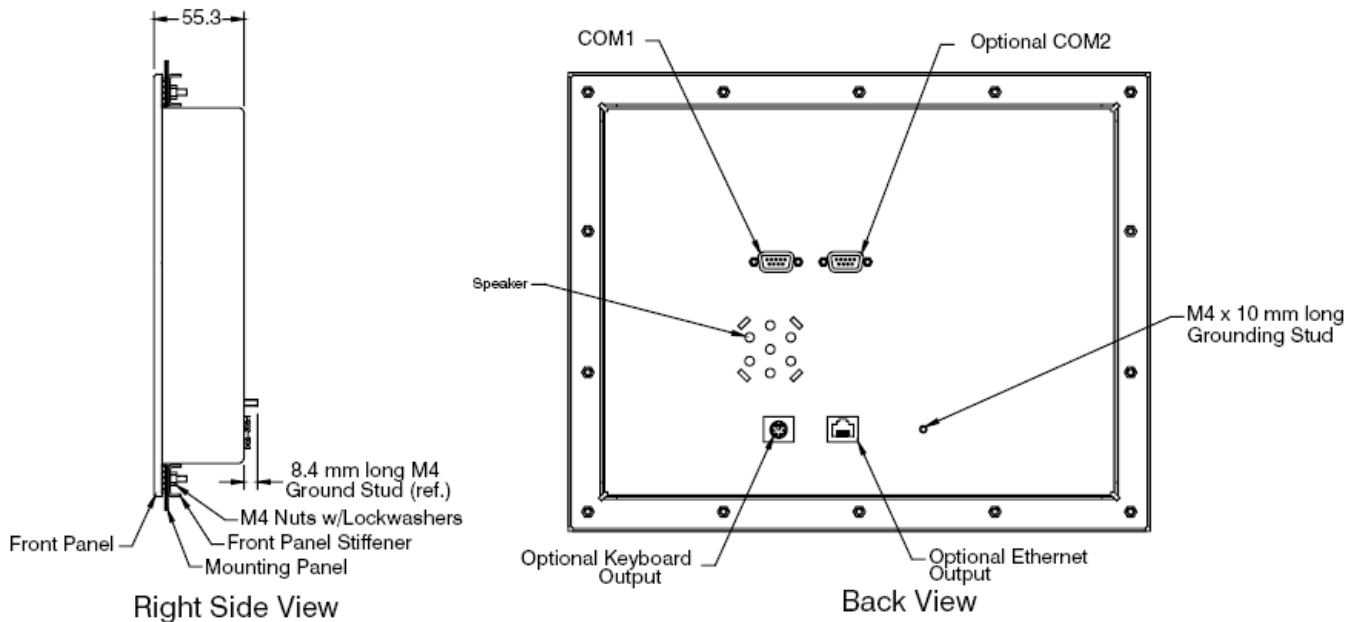

Figure 15
3. On the back of the panel, align the terminal mounting bracket holes with the mounting studs and place the bracket against the back of the panel. Refer to Figure 15.